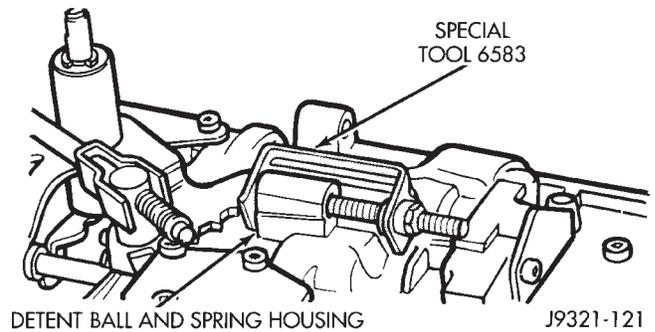

Fig. 103 Securing Detent Ball And Spring With Retainer Tool
- (3) Secure detent ball and spring in housing with retainer tool 6583 (Fig. 103).